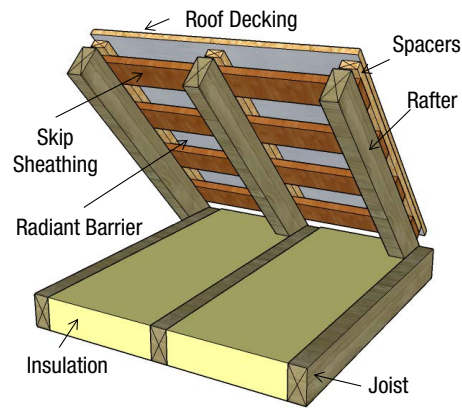

Figure 1 - Solid roof decking with radiant barrier laminated to underside installed over spacers and skipped sheathing.
1. Install 1-inch thick spacers, vertically, the length of rafters, on top of the skipped sheathing. Then install the new solid roof decking with a laminated radiant barrier (Figure 1). There may be structural issues with the added weight to the roof assembly, so confirm with your enforcement agency prior to using this method.